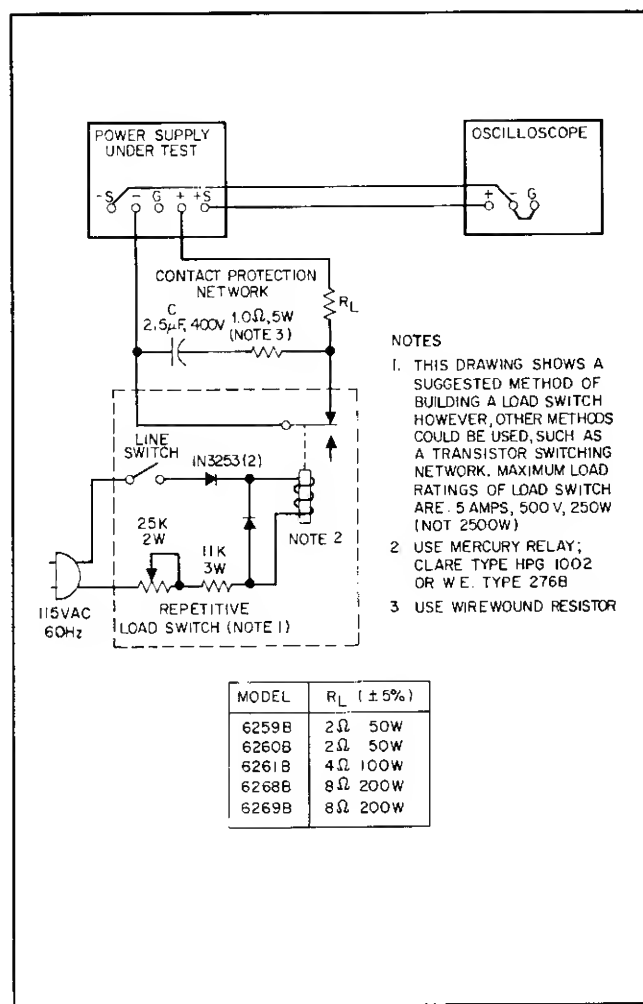

Figure 5-4. Load Transient Recovery Time Test Setup
5-29 We suggest that a mercury-wetted relay connected in the load switching circuit shown in Figure 5-4 be used for loading and unloading the supply. When this load switch is connected to a 60Hz ac input, the mercury-wetted relay opens and closes 60 times per second. The 25k control adjusts the duty cycle of the load current switching to reduce jitter in the oscilloscope display. This relay may also be used with a 50Hz ac input. The load resistance shown in Figure 5-4 is the minimum resistance that can be used without damaging the mercury-wetted relay contacts.
- Connect test setup shown in Figure 5-4.